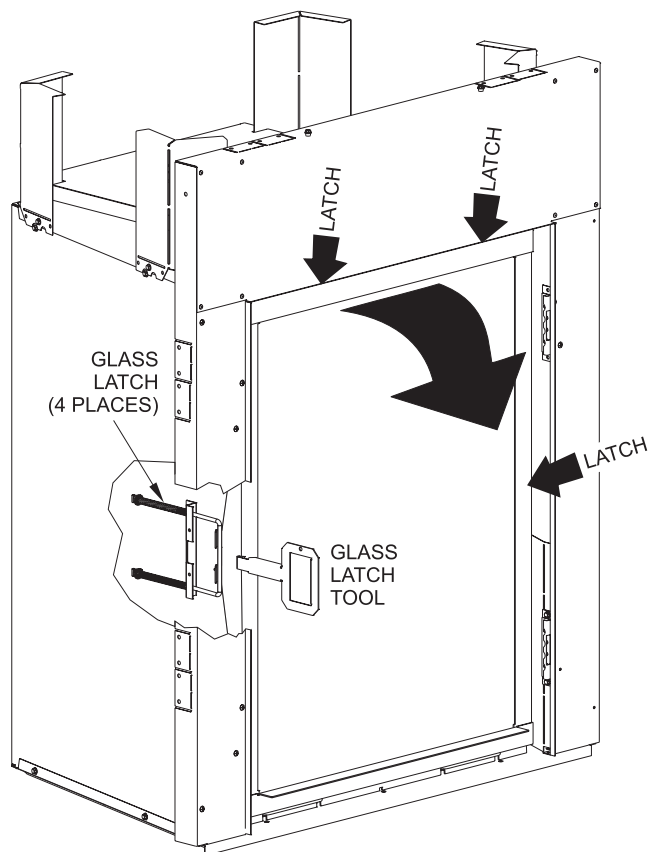

Figure 87
3. Use the glass latch tool to grip the latch bar and pry it over the glass frame hook flanges. **See Figure 87.**